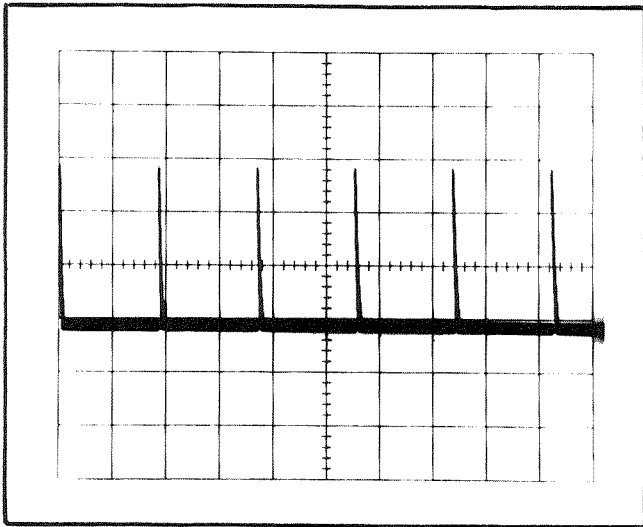

Fig. 5-5. Typical CRT display when checking VARIABLE control range.
- c. CHECK—CRT display for two-division maximum spacing between markers (indicates adequate range for continuously variable sweep rate between the calibrated steps; see Fig. 5-5). Return the VARIABLE TIME/DIV to the CAL IN position.